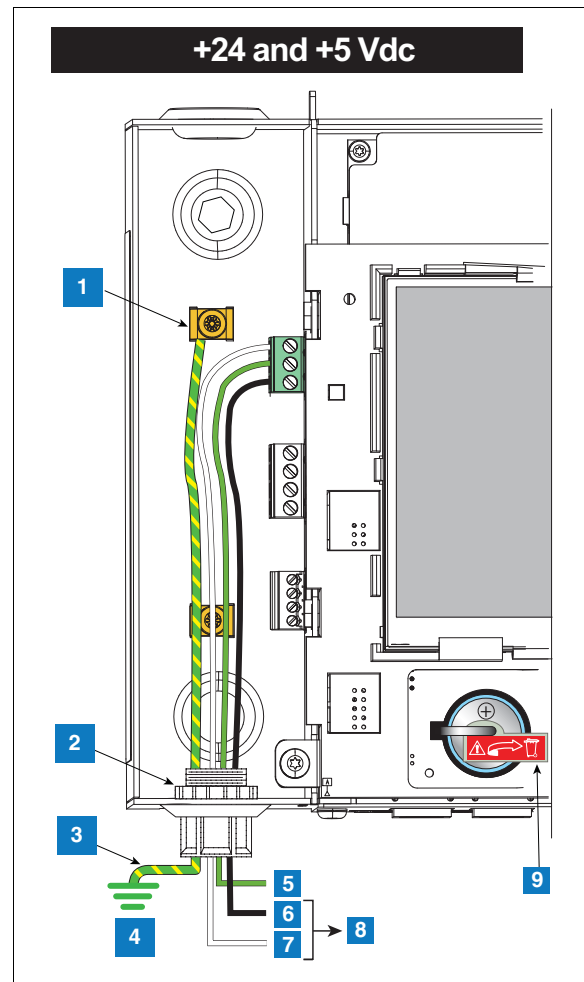

Figure 6. Wiring DC Power to the Console
2. Connect the DC power wires as shown in Figure 6.
LEGEND FOR NUMBERED BOXES IN Figure 6